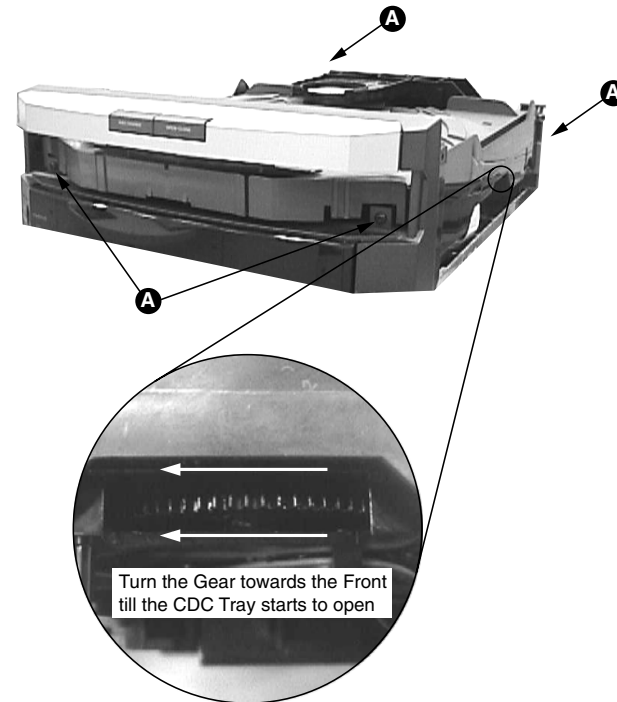

Figure 2
- 1) Loosen the 4 screws, slide Cover top (pos 255) towards the rear and remove it upwards.
- 2) Loosen 3 screws slide the Panel right (pos 254) towards the rear and remove it outwards. Do likewise for the Panel left (pos 253).
- 3) Push the gear slowly towards the front as shown in figure 2 until the CDC tray starts to move out of the Front Cabinet (pos 101). The CDC tray is now disengage and can be pulled out completely.
- 5) Loosen 4 screws A to remove the CDC Module (pos 1104) as shown in figure 2.